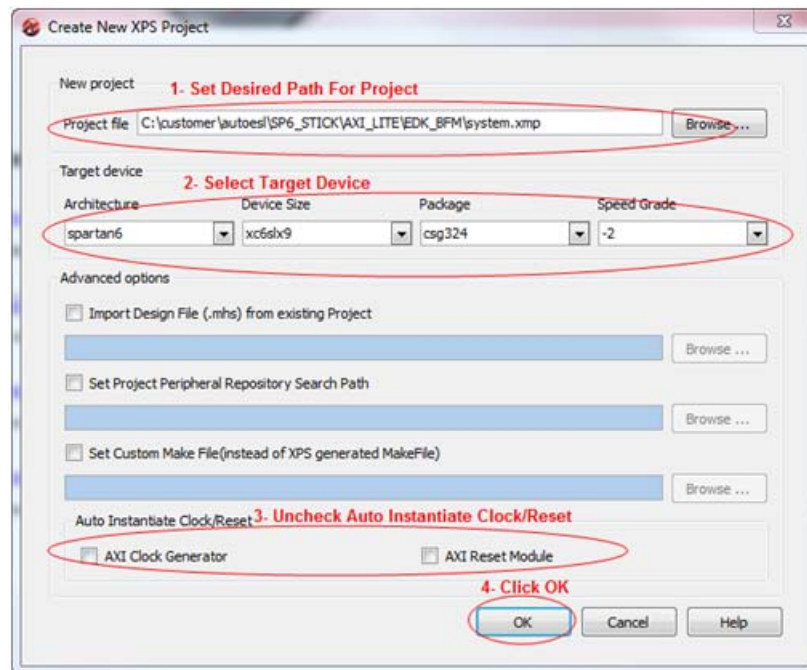

Figure 1-35: Create New XPS Project
2. Download the bit file from XPS by selecting **Device Configuration > Download Bitstream** from the Device Configuration menu as shown in Figure 1-35.